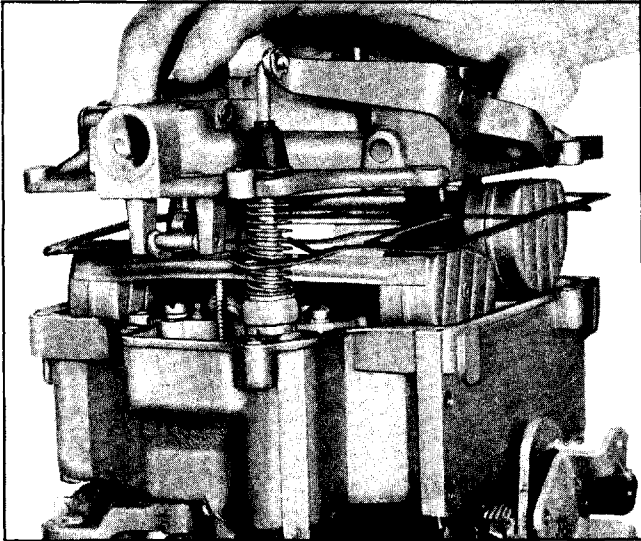

Fig. 6B-118 Removing Air Horn Assembly
9. Remove two choke housing attaching screws, and remove choke housing and gasket from air horn (Fig. 6B-116).